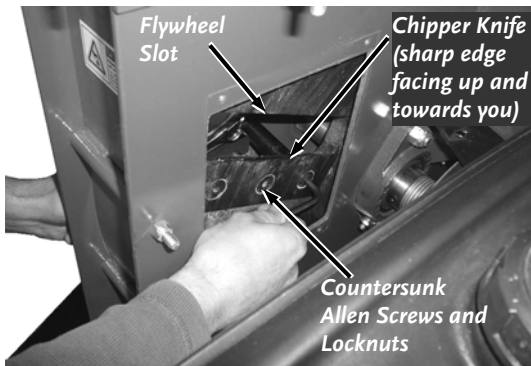

Figure 35
5. Insert a 7/32" Allen Wrench into the head of a screw (**Figure 35**).